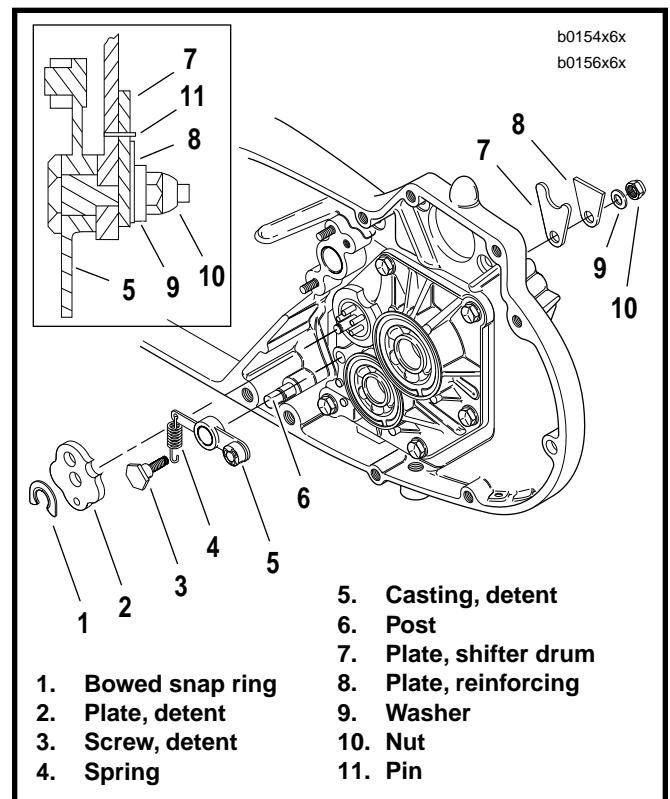

Figure 6-19. Detent Plate Mounting
See Figure 6-19. Detent plate (2) and bowed snap ring (1) are not installed at this time. These parts are installed during transmission installation after the final shifter pawl adjustment is made. See TRANSMISSION INSTALLATION AND SHIFTER PAWL ADJUSTMENT on page 6-30.
6. At the inside of the access door, place the shifter drum plate (7) in the groove of the drum shaft. See inset Figure 6-19. Take care to correctly align the drum plates (7) and (8) with the pin pressed in the drum plate. Take detent screw (3) and insert it through detent arm (5), access door, shift drum plate (7), drum reinforcement plate (8), and washer (9). Thread nut (10) on detent screw and tighten to 13-17 ft-lbs (18-23 Nm).